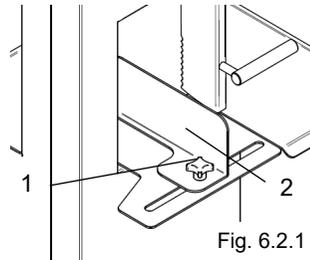

Fig. 6.2.1
6.2 - Preliminary settings (Fig. 6.2.1)